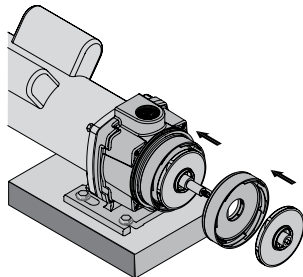
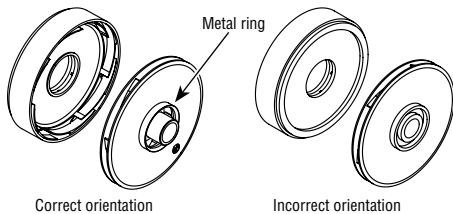

Figure 9
Figure 10
5. Slide a diffuser onto the shaft (open face out) until it seats on the bracket (see Figure 9). Follow the diffuser with an impeller. Engage the molded impeller key in the slot in the shaft. Don't force it! Be sure that the impeller eye, with metal ring, faces out (forward - see Figure 10).